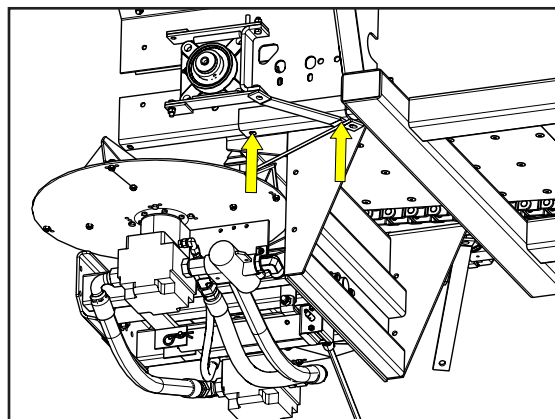

Figure 4
- Figure 4 - If adjustments are necessary, loosen the four 1/2" carriage bolts and adjust assembly as necessary. Once corrected, tighten hardware to recommended torque. See "Standard Torques" for details.